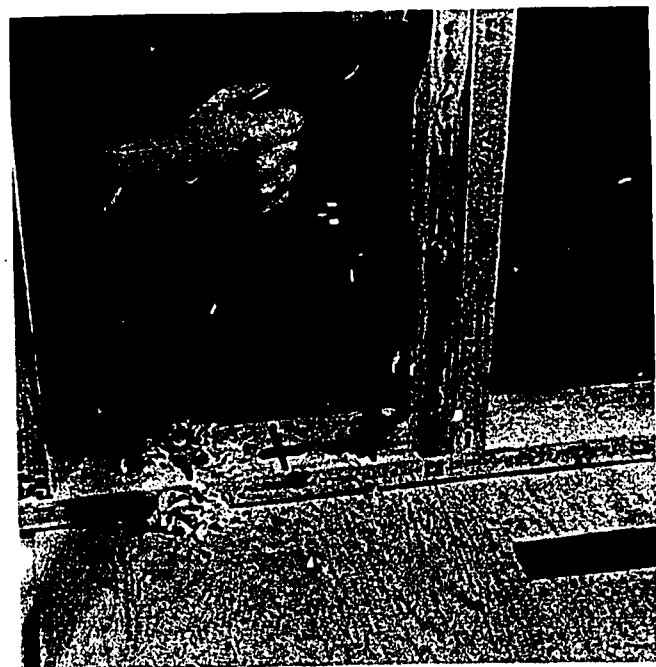

Fig. 50-2. Boring Holes for Water Pipes
3. Bore the holes for the cold water and hot water lines. Do *not* bore the hole for the drain line. See Fig. 50-2.